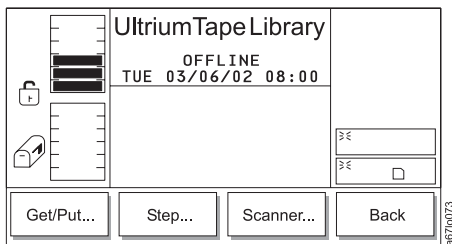

Figure 4-153. Fingers Submenu
4. Press the button below the **Fingers** softkey. The Fingers Submenu displays (see Figure 4-153).